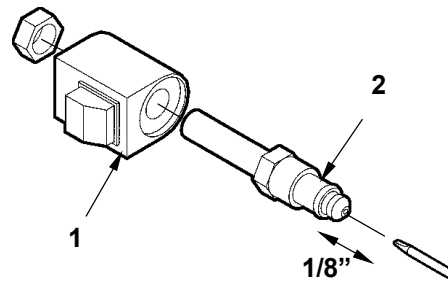

FIG. 42-2
3. Check if Solenoid Valve is getting power by holding a screwdriver against the top nut of the Solenoid. Push Control Switch to "LOWER" position to energize solenoid (FIG. 42-2). A good solenoid will attract (magnetically) the screwdriver to the nut and make it difficult to pull the screwdriver away from the nut.
4. Check the Valve Stem by removing the Coil Assembly (Item 1, FIG. 42-2). With platform supported, unscrew the Valve Stem (Item 2, FIG. 42-2) from the Pump. Push on the plunger located inside the Valve Stem by inserting a small screwdriver blade in the end. If the Plunger does not move freely (approximately 1/8") replace the Valve Stem.